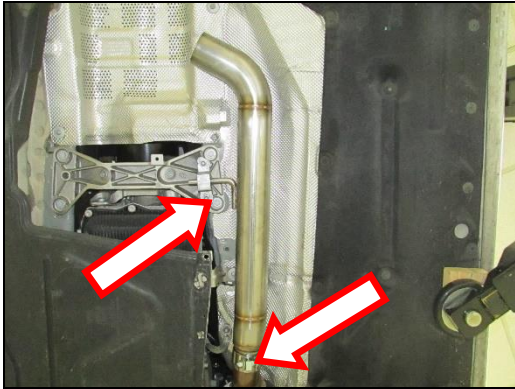

Figure 7
- Slide on the (x1) 2 1/2" band clamp and connect the Blackheart pipe to the OE down pipe or Hooker Blackheart P/N BH8308. Tighten (x2) bolts on the hanger bracket (**Figure 7**).